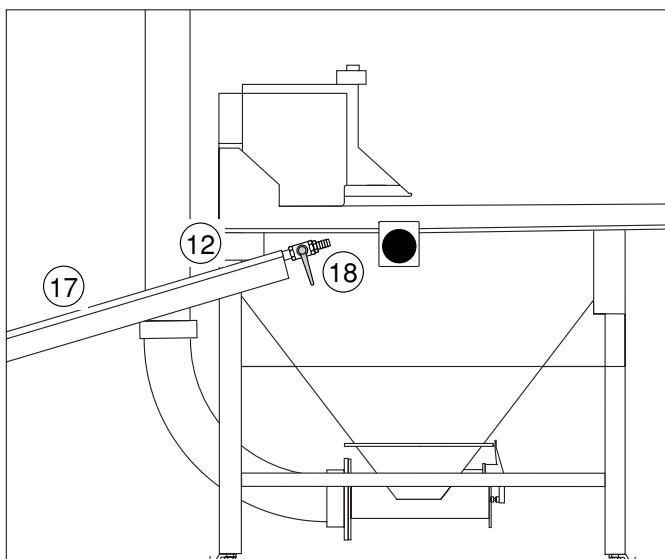

fig.12.2 Trough connection
See figure 12.2.
- Connect points **18** and **19** to the water supply system. Please see figures 12.2 and 12.3.